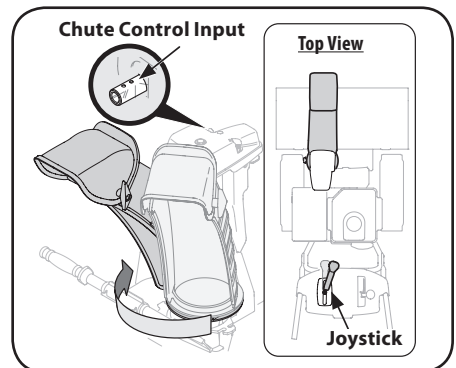

Figure 2-16
4. Squeeze trigger on joystick and rotate chute by hand to face forward. The holes in chute control input will be facing up. See Figure 2-16.